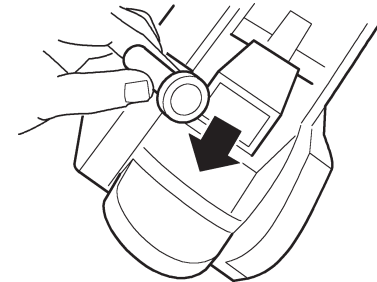

Fig. 9
- Remove friction pads. (Fig. 9)